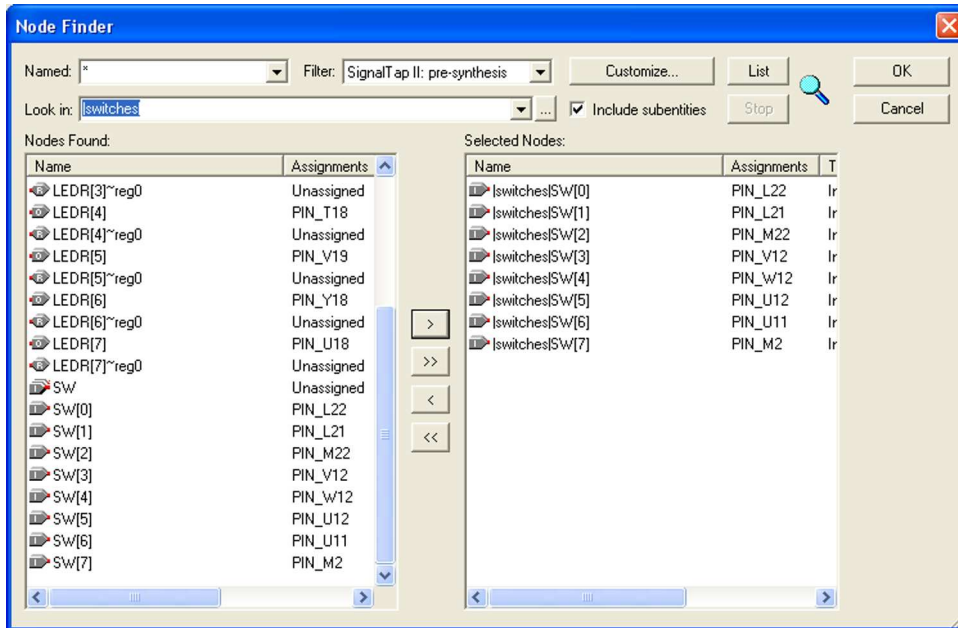

Figure 7. Add nodes in the Node Finder window.
3. We now need to add the nodes in the project that we wish to probe. In the Setup tab of the SignalTap II window, double-click in the area labeled Double-click to add nodes, bringing up the Node Finder window, as shown in Figure 7. For the Filter field, select SignalTap II: pre-synthesis. Click List. This will now display all the nodes that can be probed in the project. Highlight SW[0] to SW[7], and then click the > button to add the switches to be probed. Then click OK.